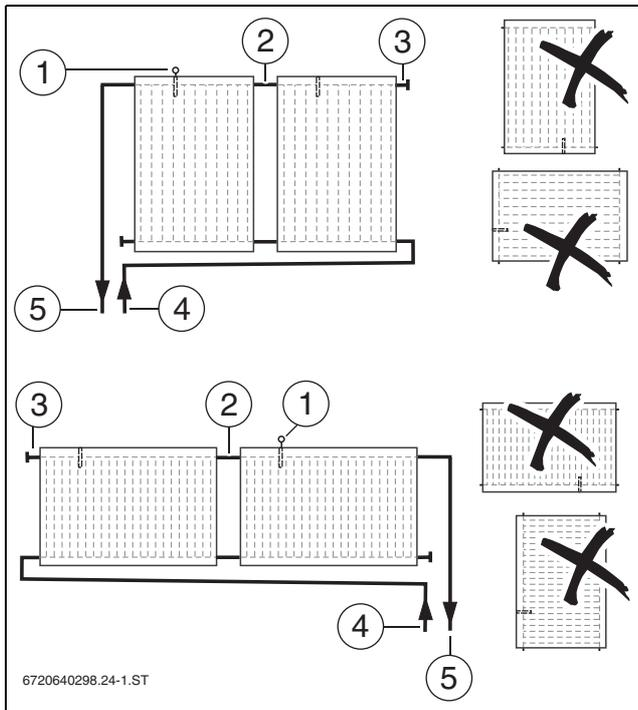

Fig. 13 Layout of portrait (top) and landscape (bottom) collectors
- ▶ Connect the collector array alternately (→ Fig. 13).
- ▶ When installing collectors, ensure that the sensor well for the collector sensor is located at the top (→ Fig. 13 [1]).
- ▶ Plan the routing of the collector sensor lead so that the collector sensor (→ Fig. 13 [1]) can be fitted to the collector to which the flow [5] has been attached.